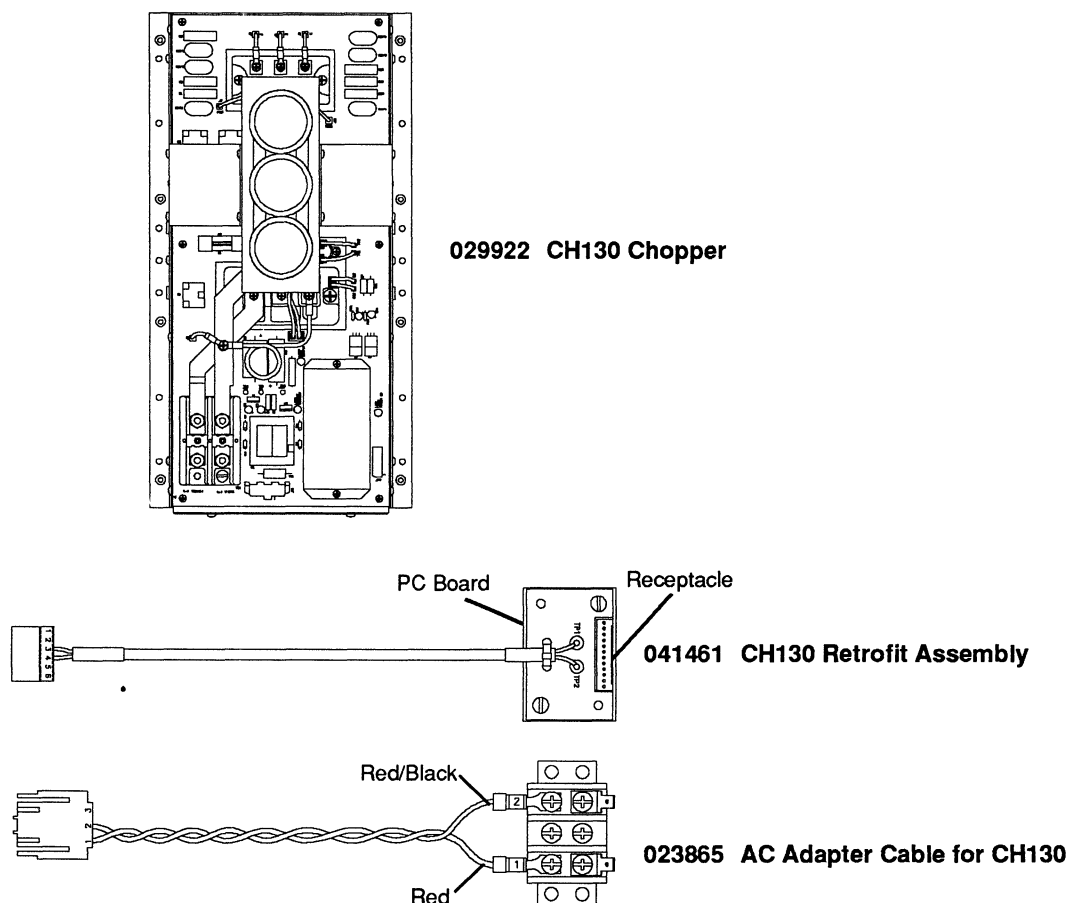

Figure 3-1 - CH130 Chopper Retrofit Kit Components
5. Unplug wire harness assembly from the chopper module - Fig. 3-2b. Plug this same connector into the receptacle on the small PC board portion of the 041461 assembly that came with the kit - Figs. 3-1 & 3-2b.
wires removed from the chopper transformer primary and connect to terminal board (match red wire to red wire; red w/black wire to red w/black wire). See Fig. 3-1.